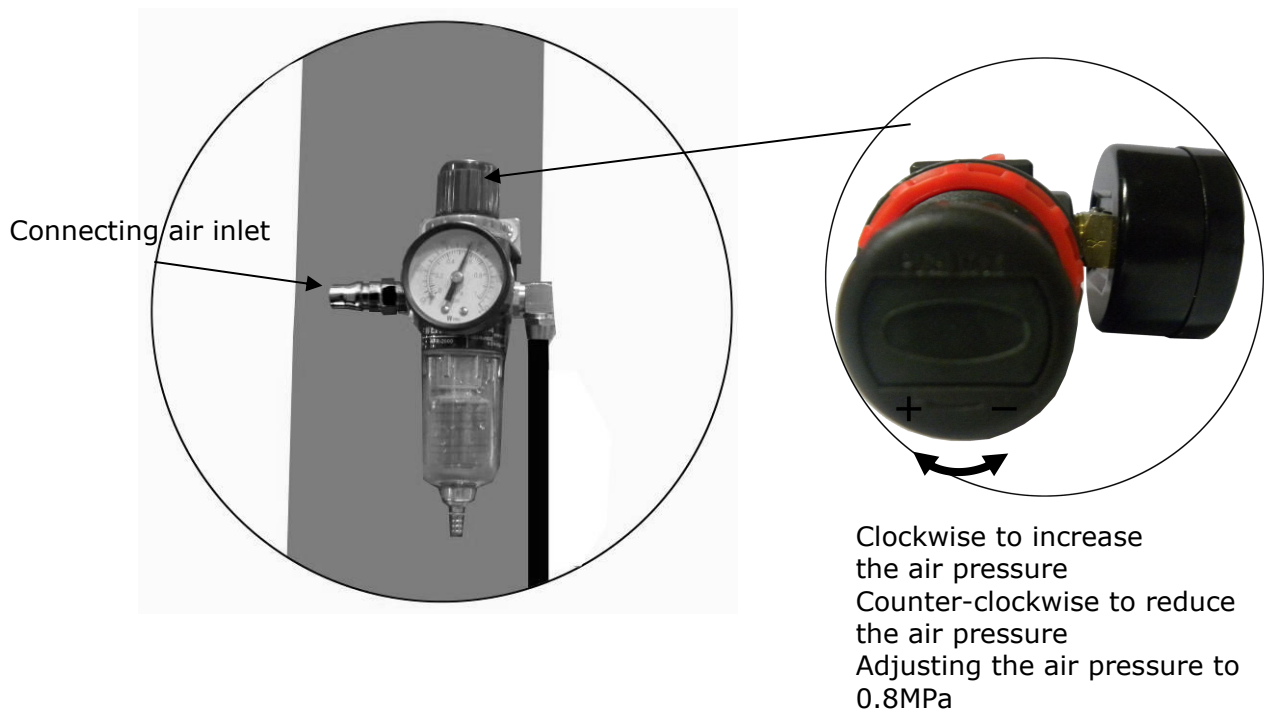

Fig. 32
6. Connecting air inlet (Air supply pressure $8\text{kg}/\text{cm}^2$), adjusting the air pressure of Oil-water separator to 0.8MPa (See **Fig. 32**).